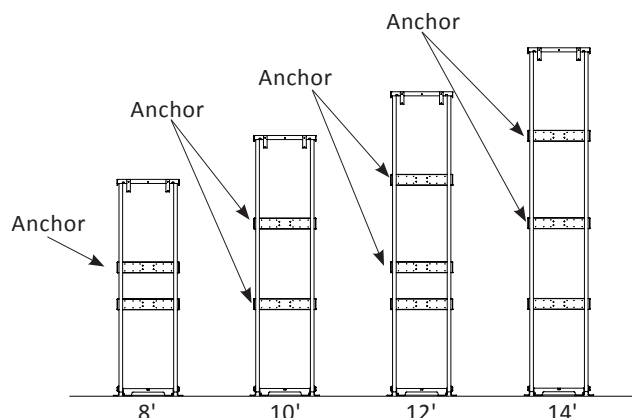

Figure 4-22
1. 8' models must have the lift tower anchored into a solid surface at or above the top cross-brace of the tower frame. 10' or taller models must have the lift tower anchored at two (2) levels into a solid surface at or above the top two (2) tower cross braces. This is to ensure running clearances remain constant. There are two (2) spacers included in the small parts kit that go between the cross brace and back panel to provide a more secure connection to wall. There are two options for anchoring the top of the tower. *See Figure 4-22.*